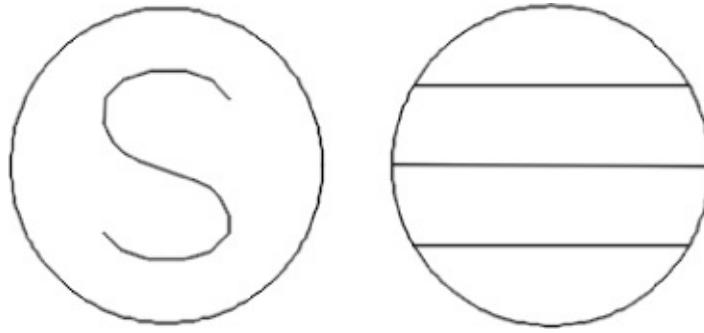

Figure 13.2 Waste water manhole in plan view (left) and a cleanout in plan view (right)
- Structure symbology: Manholes are shown in plan view as a circle with an S inside. Cleanouts are shown as a hatched circle (see Figure 13.2).